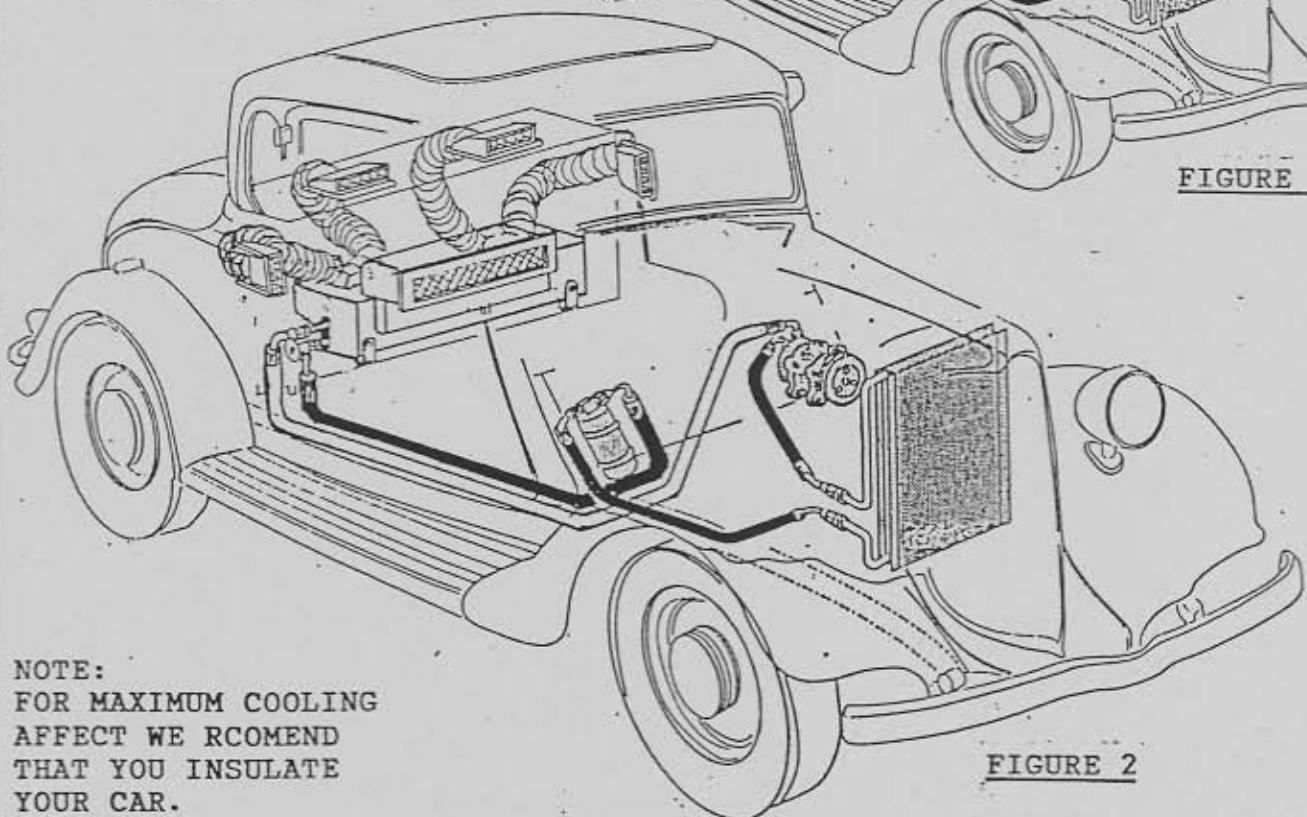

FIGURE 2
4. Make holes and install louvers as Figure 2 shows. (keep louver hoses as short and straight as possible for best cooling results).